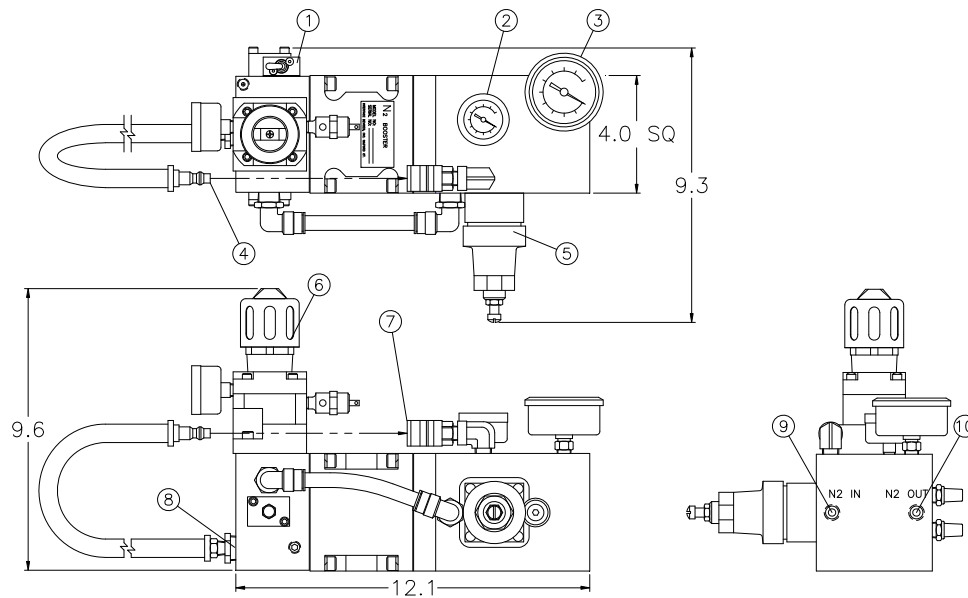

Fig. 1
(Refer to Fig. 1 for component locations)
- 4.1.2 Decrease the item 6 (fig 1) inlet pressure regulator to its minimum pressure setting.